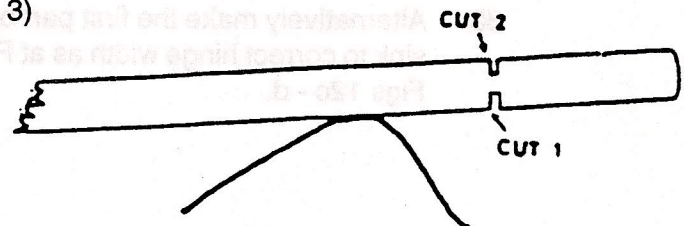

Figure 3
- 2 Reduce excessive tension by first making a cut on the compression side of the log (i.e. and under cut). (See fig 3)
- 18 Bore out the centre of the hinge leaving 10% either end. Assess what effect the cutting of each support will have on the tree. Plan the sequence of cuts ensuring your position is always in the safe zone. Remove the remainders with a series of V cuts from the side. (Fig 3).